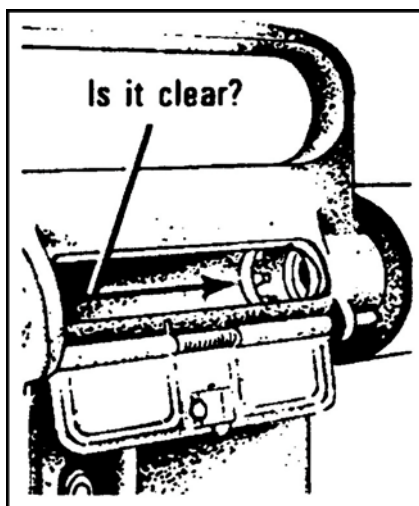

Figure 2. Inspecting the chamber.
- e. Check the chamber to ensure it is clear (Figure 2).